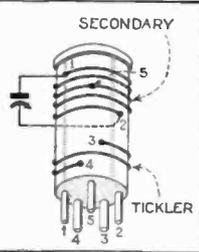

Figure 33
- L1—2-winding, 5-prong band-spread coils (Figure 33)